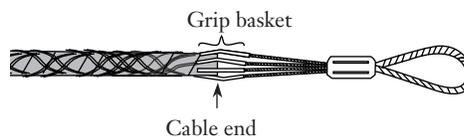

Figure 27
5.17 "Walk" the grip over the friction tape-covered cable core until the cable end is in the middle of the grip basket (Figure 27).